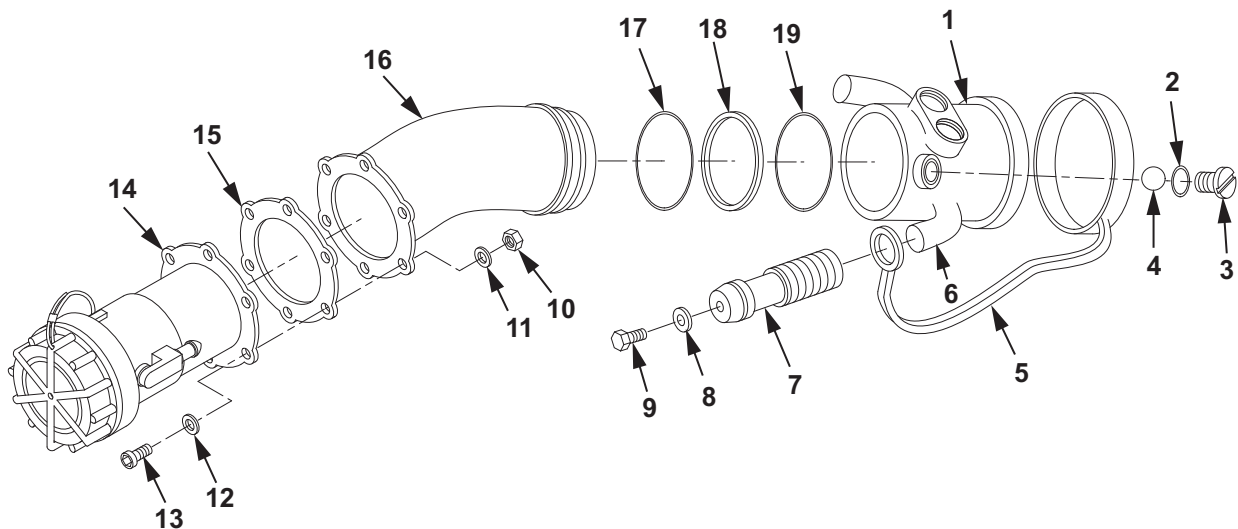

Figure 1. D1 Nozzle Disassembly.
Screw (Figure 1, Item 3) is a self-locking screw and is designed to be reused up to 15 times before replacement. If a torque wrench is not used to remove screw (Figure 1, Item 3), then screw (Figure 1, Item 3) should be replaced.
4. Using a torque wrench and screwdriver bit, check running torque on screw (Figure 1, Item 3). If running torque is less than 9.5 in. lb (1.07 N•m), discard screw (Figure 1, Item 3).
Keep inlet hole in the up position when removing screw (Figure 1, Item 3) to prevent loss of ball bearings (Figure 1, Item 4).
5. Remove screw (Figure 1, Item 3) from fuel nozzle body (Figure 1, Item 1).
6. Remove O-ring (Figure 1, Item 2) from screw (Figure 1, Item 3) and discard.
Ensure all 39 ball bearings (Figure 1, Item 4) are accounted for during disassembly.
7. Hold fuel nozzle body (Figure 1, Item 1) with screw hole toward cleaning cloth and rotate fuel nozzle body (Figure 1, Item 1) to allow ball bearings (Figure 1, Item 4) to fall onto the cleaning cloth.
8. Remove inlet elbow (Figure 1, Item 16) from fuel nozzle body (Figure 1, Item 1).
9. Remove O-ring (Figure 1, Item 19) from internal groove of the fuel nozzle body (Figure 1, Item 1).
10. Discard O-ring (Figure 1, Item 19).
11. Remove seal (Figure 1, Item 18) and wear ring (Figure 1, Item 17) from inlet elbow (Figure 1, Item 16).
12. Discard seal (Figure 1, Item 18).
If it is necessary to replace dust cap (Figure 1, Item 5), perform the following removal steps.
13. Using a torque wrench and screwdriver bit, check running torque on screw (Figure 1, Item 9). If running torque is less than 6.5 in. lb (0.73 N-m), discard screw (Figure 1, Item 9).
14. Remove screw (Figure 1, Item 9) and washer (Figure 1, Item 8) from grip handle (Figure 1, Item 7).
15. Remove grip handle (Figure 1, Item 7) from fuel nozzle handle (Figure 1, Item 6).
16. Remove dust cap (Figure 1, Item 5) from fuel nozzle handle (Figure 1, Item 6).
2. Inspect quick disconnect coupling half (Figure 1, Item 14) for leakage or damage. If leakage or damage is found, repair quick disconnect coupling half (Figure 1, Item 14) (WP 0187).
3. Check fuel nozzle body (Figure 1, Item 1) for leakage or damage. If leakage or damage is found, replace with a serviceable nozzle.